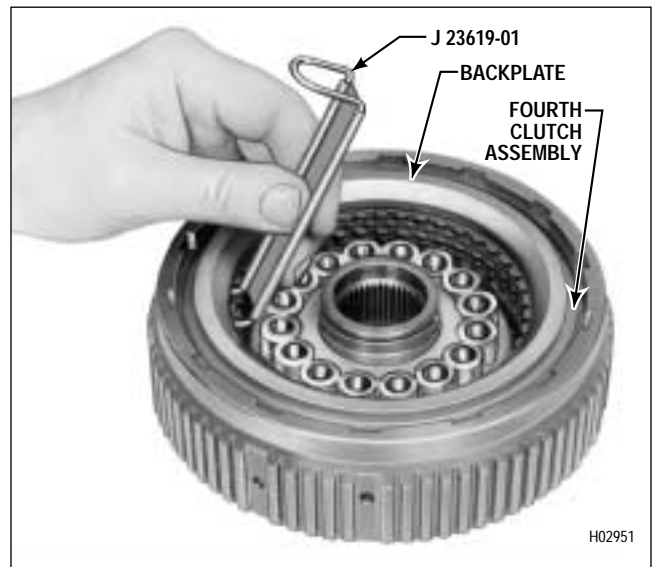

Figure 6-44. Checking Fourth Clutch Clearance
- Two methods of establishing proper clutch clearance are explained and illustrated. The first method, Steps (1) through (6), is by direct measurement using a go/no-go gauge. The second method is by stack dimension computation (Paragraph 6-17). This method may be more convenient when assembly line overhaul practices are used.
(1) Install the piston, without sealrings, into the clutch housing assembly until the piston bottoms against the housing.
(2) Beginning with an external-tanged plate, alternately install five external-tanged clutch plates 4 (Foldout 9,A) and five internal-splined clutch plates 3 onto piston 8.
(3) Install clutch backplate 2, flat side first, onto the last clutch plate 3 installed. Install snapping 1 into housing 13.
(4) While holding backplate 2 firmly against snapping 1, use clutch clearance gauge J 23619-01 to measure the clearance between the backplate and the clutch plate (Figure 6-44). The smaller end of the gauge must insert between the backplate and the first clutch plate. The larger end must not.